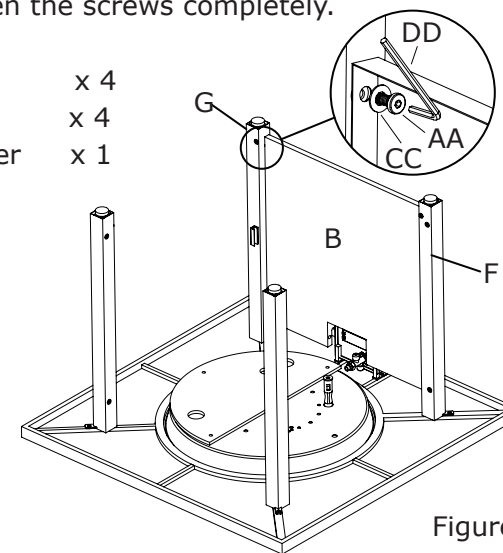

Figure 3
3. Attach front panel (B) to front-left leg (G) and front-right leg (F) with bolts (AA) and washer (CC) using hex screw driver (DD), (see Figure 3).